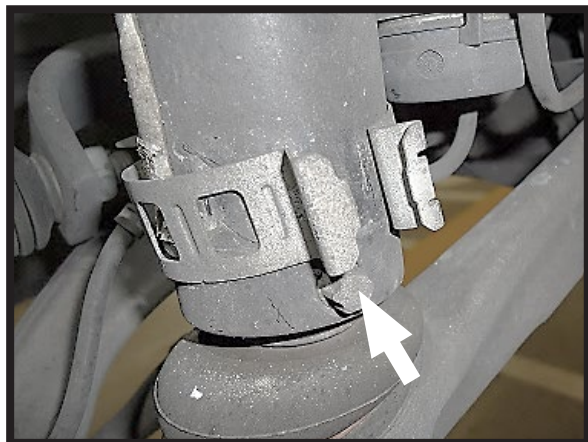

FIGURE 10-9
6. CUT CABLETIES AND REMOVE BRAKE LINE BRACKET AND BOTTOM CLIP. (FIGURES 10-9, 10-10, 10-11, 10-12)